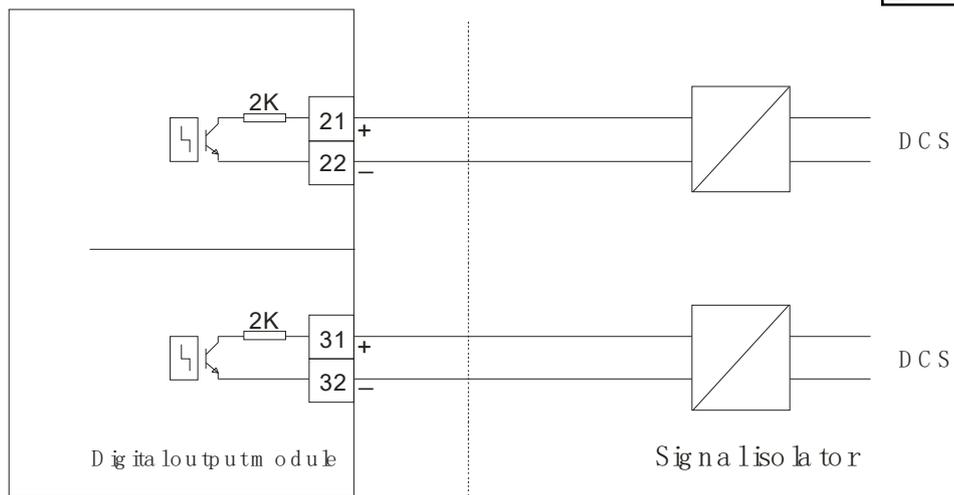

Fig.4-12 Digital output module electrical connection
4.4.3.2 Digital output module electrical connection (Fig.4-12)